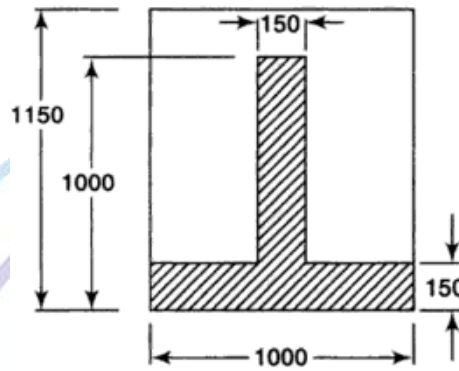

Figure 2
10. A composite beam of rectangular section is made up of a pretensioned inverted T-beam as shown in figure 2 having a slab thickness and width of 150mm and 1000mm respectively. The rib size is 150mm and 850mm. the cast in situ concrete has a thickness and width of 1000mm with a modulus of elasticity of 30kN/mm^2 . If the differential shrinkage is 100×10^{-6} units, estimate the shrinkage stresses developed in the precast and cast in situ units.